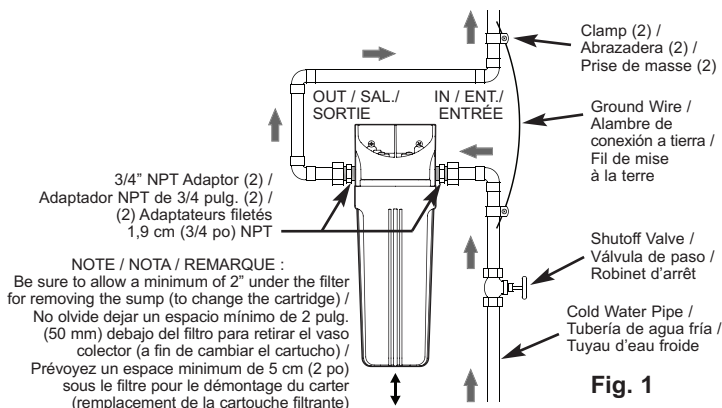
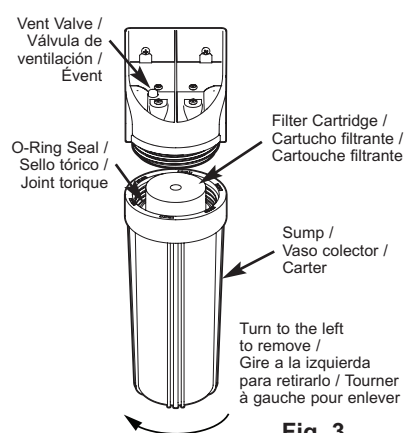

Fig. 1
Fig. 3
To filter all house water, install the filtration system on the main (COLD) supply water pipe near where it enters the house (See Figure 1).
3. Cut out a section of the COLD water supply pipe several inches long, as needed to install the filter as shown in Figure 1.
5. With the IN side of the water filter toward the incoming water, make connections, as shown in Figure 1. When tightening compression nuts, be sure to use a second wrench to hold the 3/4" NPT fitting while turning the nut.
The house cold water pipe is often used to ground electrical outlets in the home. Grounding protects you from electrical shock. Installing the water filter may have broken this ground. To restore, buy and install a #4 copper wire across the filter, tightly clamped at both ends, as shown in Figure 1.
1. Close the water supply shutoff valve to the filter (See Figure 1). To relieve pressure in the filter, press the vent valve on top of the filter head (See Figure 3) or open a cold water house faucet downstream of the filter.
2. Turn the sump to the left to remove from the head (See Figure 3). Be careful, as the sump is full of water. Do not lose the large o-ring seal.
8. Partially open a house faucet downstream of the filter housing. Then, slowly open the water supply shutoff valve (See Figure 1) and allow the filter housing to fill with water. While it is filling, press the filter vent valve to release air in the filter.
2. Gire el vaso colector a la izquierda para retirarlo del cabezal (Vea la Fig. 3).
Pour filtrer l'eau de toute l'habitation, installez le système de filtration sur le tuyau principal d'arrivée d'eau FROIDE près de l'endroit où il entre dans la maison (voir figure 1).
3. Coupez une section du tuyau d'arrivée d'eau FROIDE sur plusieurs centimètres, assez pour installer le filtre tel qu'illustré à la figure 1.
1. Fermez d'abord l'arrivée d'eau du filtre (voir figure 1). Pour relâcher la pression à l'intérieur du filtre, appuyez sur l'évent situé sur le dessus de la tête du filtre (voir figure 3) ou ouvrez un robinet d'eau froide en aval du filtre.
2. Tournez le carter vers la gauche pour le séparer de la tête (voir figure 3). Prenez garde, car le carter est rempli d'eau. Ne dégagez pas le grand joint torique.